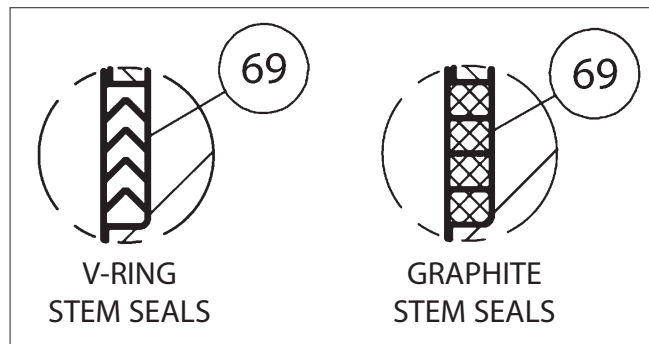

Figure 5. Stem Seal Orientation
8. Insert the stem (5), through the insert end of the body, being careful not to scratch the stem sealing surface; and press it gently up into the stem bore until resistance is felt from the stem bearing. Holding the stem in place from the bottom, insert the stem seals (69) over the stem (5). (see **Figure 5** for proper V-ring and graphite seal orientation).